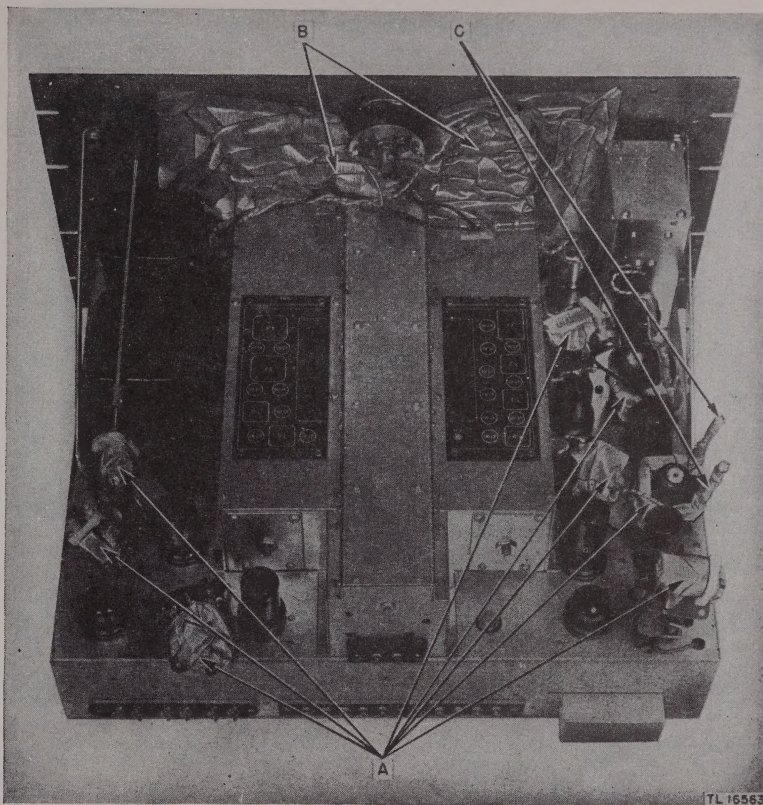

Figure 20. Radio Receiver BC-1004-C, top view of chassis, showing masking.
(1) Resistors, capacitors, coils, chokes, transformer windings, etc., fail because of the effects of fungus growth and excessive moisture.
(2) Electrolytic action, often visible in the form of corrosion, takes place in resistors, coils, chokes, transformer windings, etc., causing eventual breakdown.
(3) Hook-up wire insulation and cable insulation break down. Fungus growth accelerates deterioration.
(4) Moisture forms electrical paths on terminal boards and insulating strips, causing flash-overs and crosstalk.
54. Radio Receivers BC-779-(*), BC-794-(*), BC-1004-(*), and R-129/U (figs. 20 and 21)
b. DISASSEMBLY. (1) Remove the two screws holding the terminal strip cover to the chassis, and remove the cover.
(1) Eight capacitors on transformers T2, T3, T4, T5, and T6 (A, fig. 20).
(2) Drive gears and tuning mechanism (B, fig. 20).
(3) Supporting shafts on coil-capacitor assemblies (C, fig. 20).